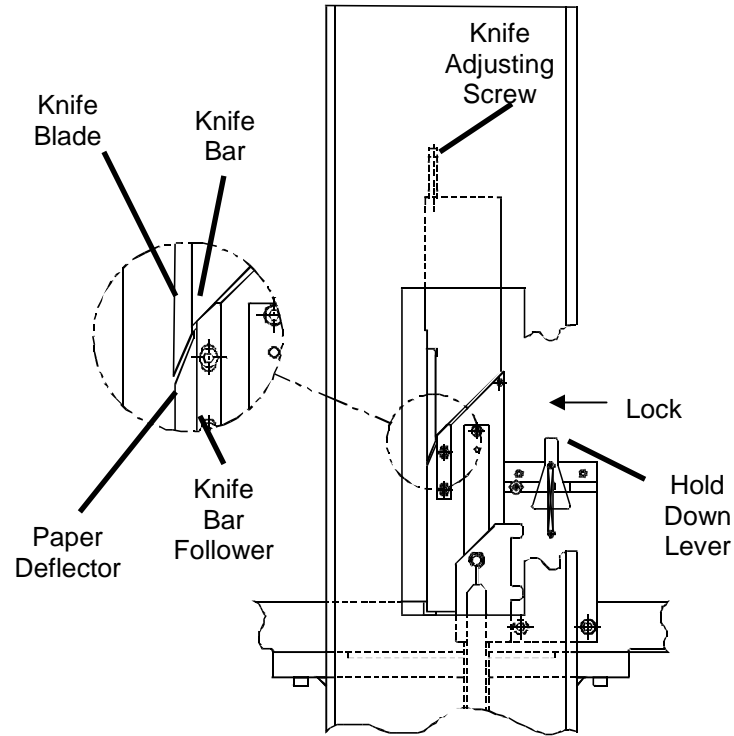

Figure 19
2. Lock the paper deflector down by switching the hold down lever to the locked position (Figure 19).